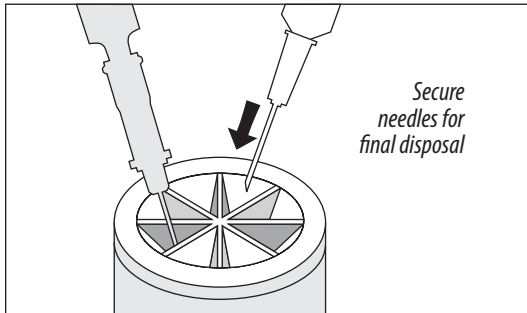

Figure 17
- Using one-handed technique, firmly push needles into disposal cup holes (refer to Figure 17).